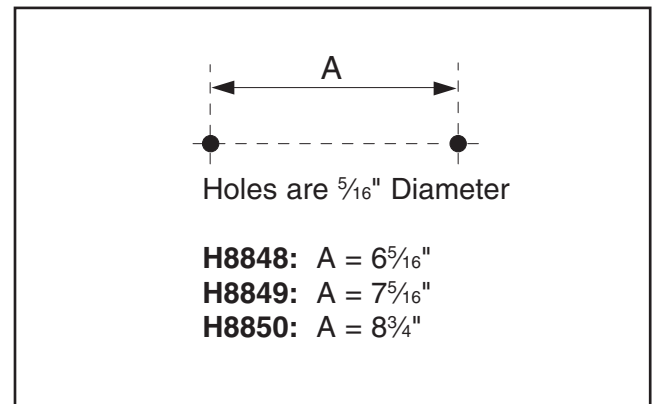

Figure 6. Bench grinder mounting bolt pattern.
1. Once you have confirmed that your grinder is running properly, mount it to a workbench through the holes in the base using the dimensions in **Figure 6**. **DO NOT** overtighten the mounting bolts or you will crack the base.